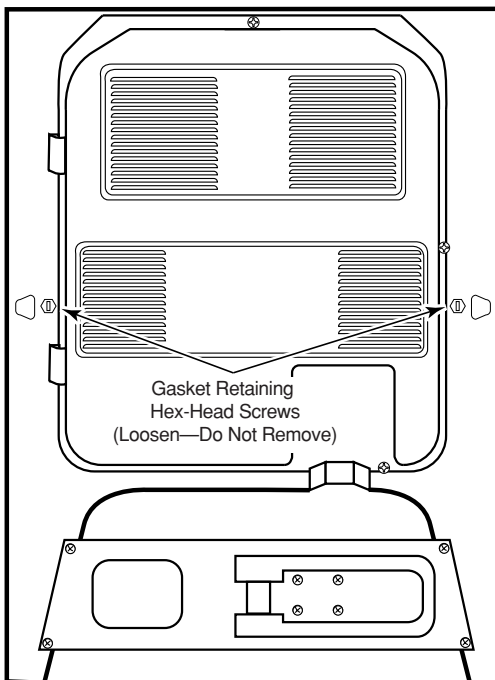

Figure 4-9
3. Loosen (do not remove) the two gasket retaining screws (see Figure 4-9) so they extend approximately 1" from the rear panel.